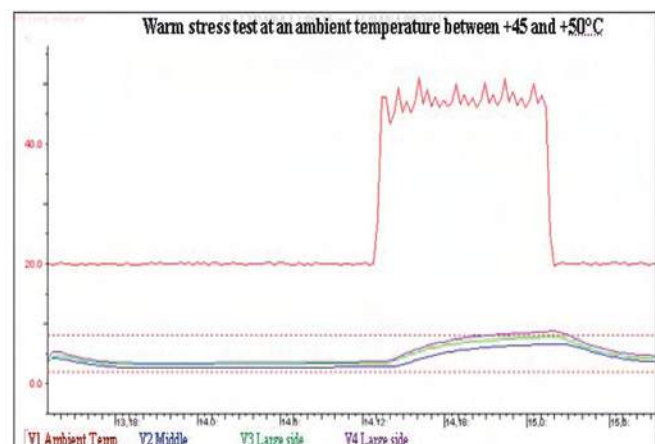

Fig. 5: Warm stress test at an ambient temperature between +45 and +50°C
- When the ambient temperature is decreased to +20°C, after about 12 hours at +40°C, the product temperature decrease quickly to be stabilized between +2 and +8°C (See Fig. 5).